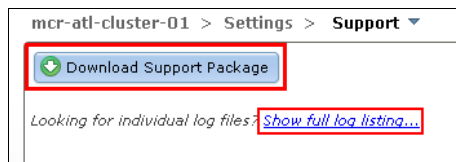

Figure 12-67 Download Support Package
2. Click **Download Support Package**, as shown in Figure 12-67.